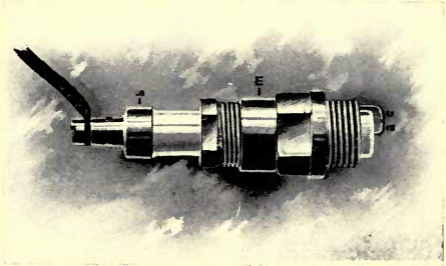

FIG. 13.—THE DE DION-BOUTON SPARKING PLUG
6. *The Sparking Plug.*—It is by means of a sparking plug that a spark is made to occur in the combustion chamber. Fig. 13 gives a good idea of its construction. The high tension current from the coil runs along the insulated wire, which may be seen forming connection with the top of the plug. Thence it follows the wire in the centre of the plug to the point A. At the break of the low tension current it jumps across the space between A and C, and thence back through the body of the plug and the frame of the car to the coil. It is the spark produced in the jump that fires the charge.